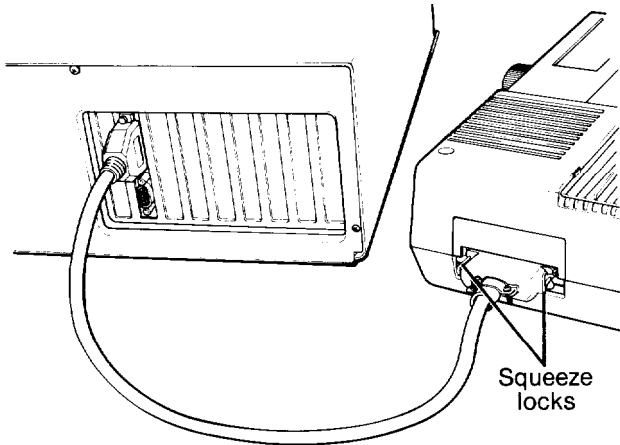

Figure 1-11. Connecting the printer
4. Connect the other end of the cable to the printer as shown in Figure 1-11. To secure the cable, tighten the squeeze locks at each side of the printer port and push them into the connectors on each side of the cable.